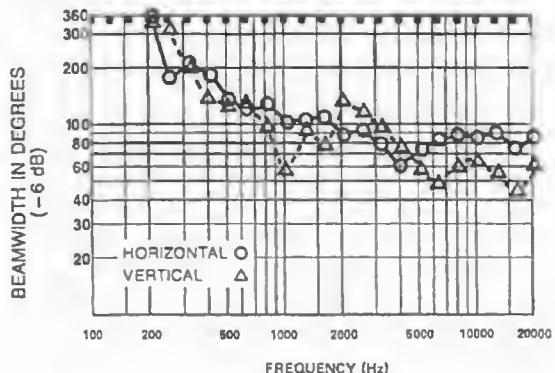

FIGURE 5 — DML-1122/DMC-1122
1.0-20 kHz horizontal (see Figure 5)
3.8-20 kHz vertical (see Figure 5)